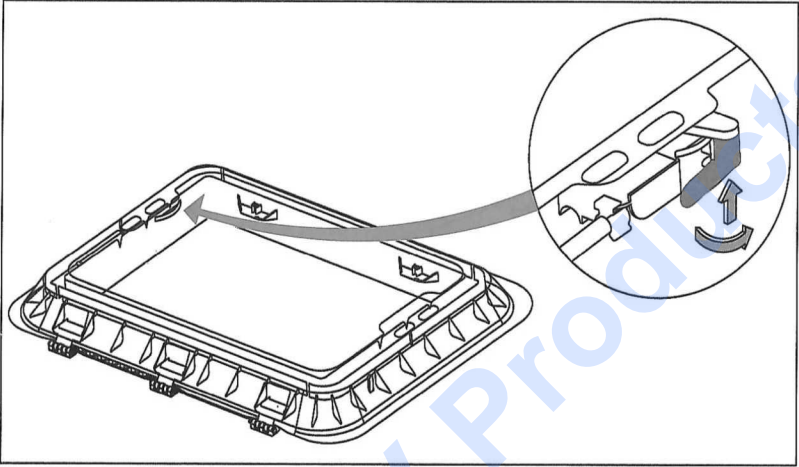

Figure 3
1. Press the handle button and rotate it to 90° (see Figure 3).